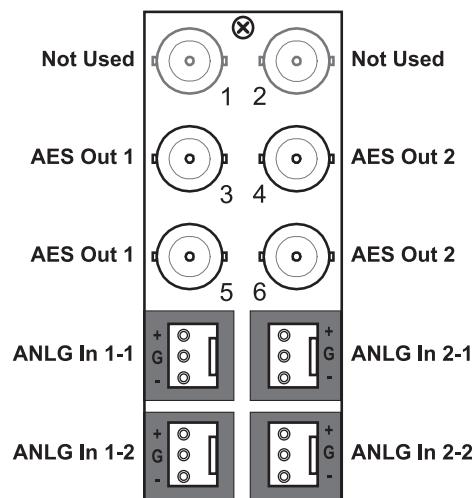

Figure 2.2 Cable Connections for the 8310AR-036 and 8320AR-036 Rear Modules
- **8310AR-036** Rear Module — Each module occupies one slot and accommodates one card. This rear module provides four 75ohm AES/EBU outputs, and one stereo analog audio input. (**Figure 2.2**)
- **8320AR-036** Full Rear Module — Each module occupies two slots and accommodates one card. This rear module provides four 75ohm AES/EBU outputs, and one stereo analog audio input. (**Figure 2.2**)